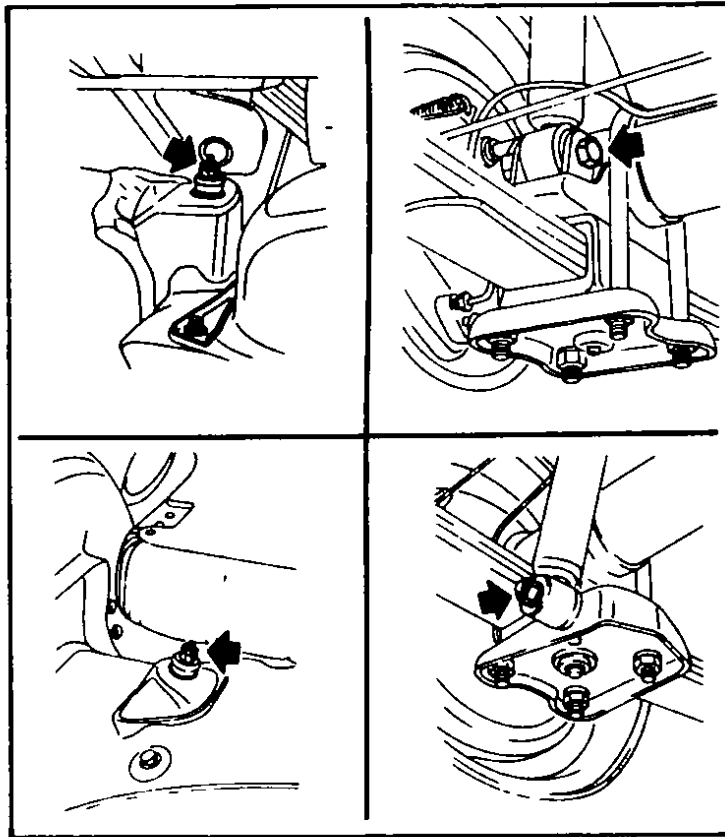

Fig 122 Typical shock absorber bolt locations
- 4 Remove the shock absorber. Installation is the reverse of removal. Refer to Fig. 122 for typical bolt locations.